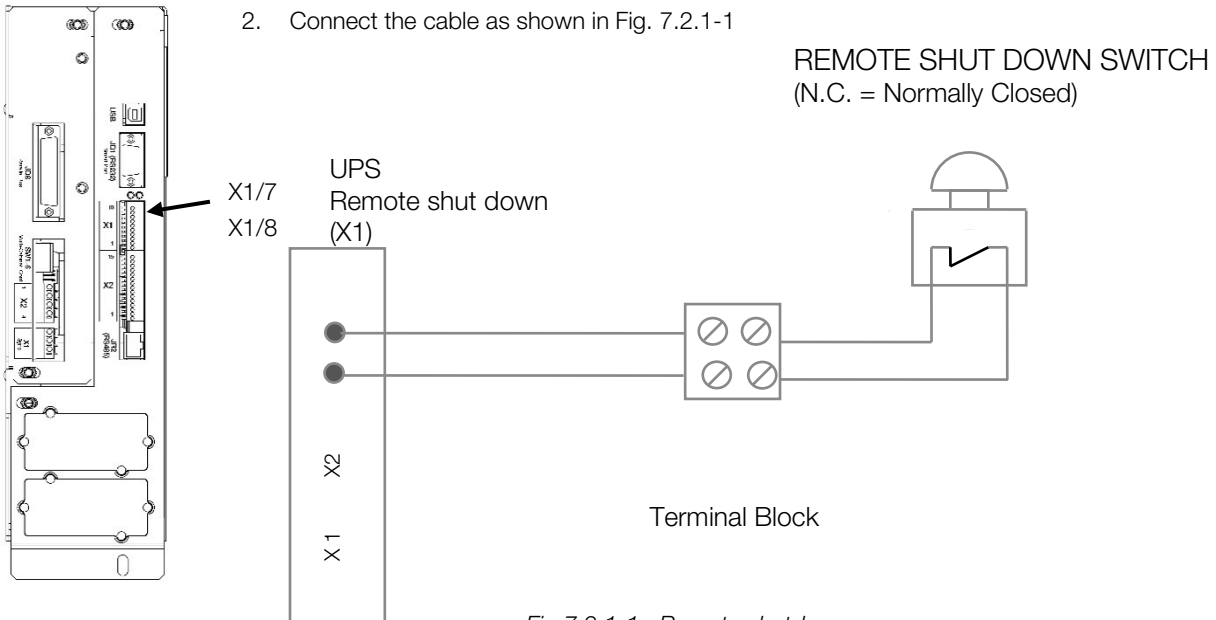

Fig 7.2.1-1: Remote shutdown
2. Connect the cable as shown in Fig. 7.2.1-1